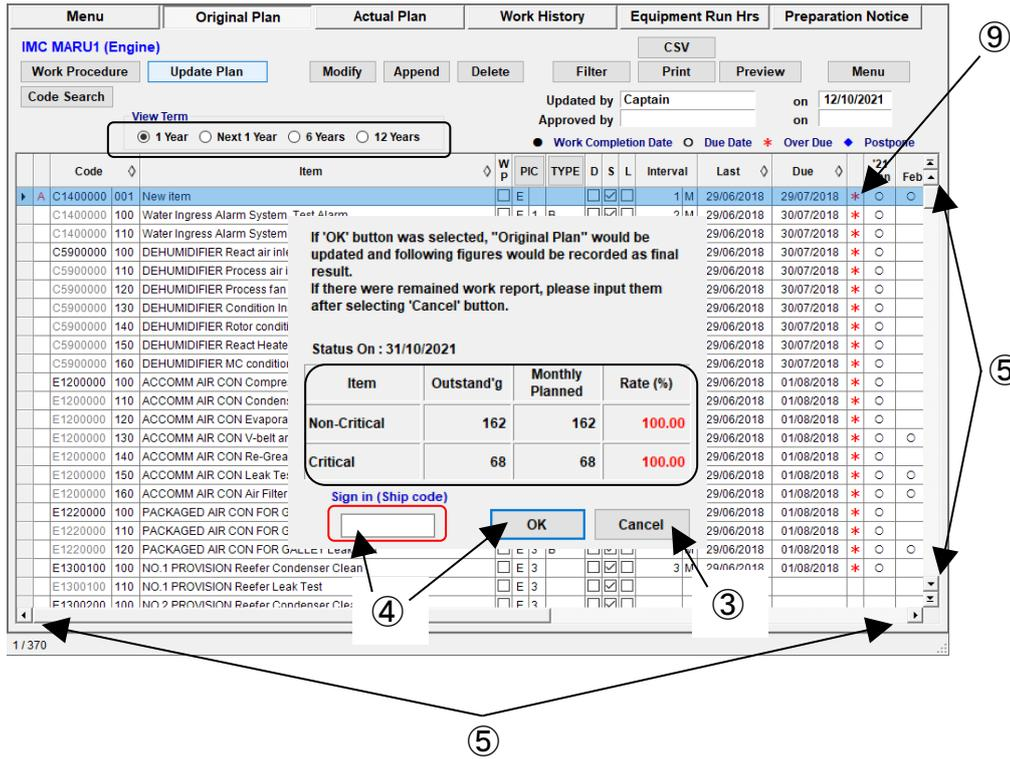
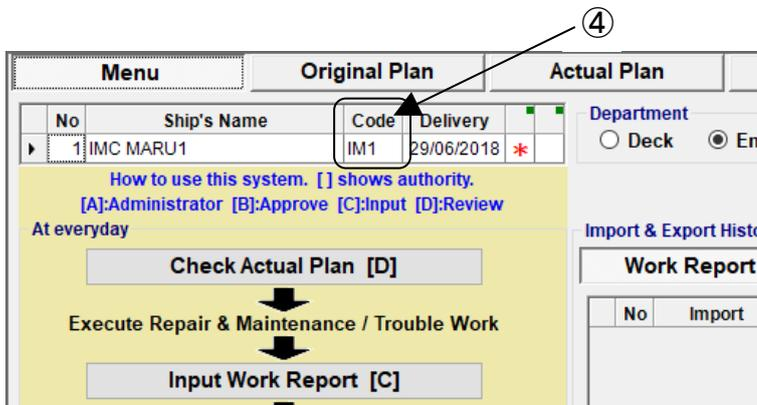

Fig.11-2 Original Plan Screen
Fig.11-3 Original Plan Screen
(2) "Original Plan Screen"(Fig.11-2) and confirmation message are displayed and you can confirm Outstand'g rate on the end of previous month. At the moment, Original Plan is not updated yet.
(3) If Outstand'g rate is higher than assumed rate, select [Cancel] button to stop updating Original Plan. Then, open "Actual Plan" screen and check work report for previous month.
(4) If there is no problem with the Outstand'g rate, enter the Ship Code in the red frame and click the [OK] button. The Ship Code is displayed in the upper left of the Menu screen (Fig. 11-3).